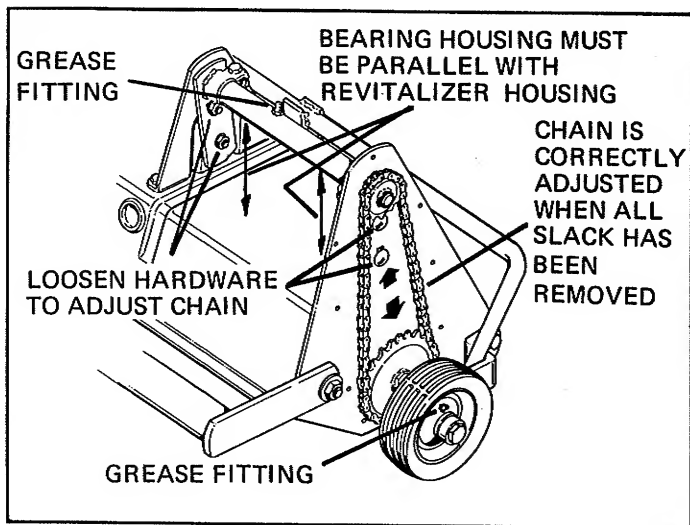

Figure 7.
1. See Figure 7. With the chain cover removed so the chain is visible, loosen, but do not remove the two bolts holding each end of the bearing housing.
2. Pull upward on the bearing housing until all slack is removed from the chain. Before tightening the bolts at each end of the bearing housing, insure that the bearing housing is parallel to the revitalizer housing. This may be easily and accurately done by measuring the distance from the bearing housing to the revitalizer housing at each end of the bearing housing. When the two distances are equal, the bearing housing is parallel to the revitalizer housing. (See Figure 7).
There are five grease zerks located on the revitalizer which should be lubricated with automotive grease after every 10 hours of use. They are located one on each of the two guide wheels, one on each of the two tine shaft bearings and one on the crossdrive housing. (See figure 7 and 8). Lubricate each zerk with 5 shots of grease or until grease is pushed out around the bearings.